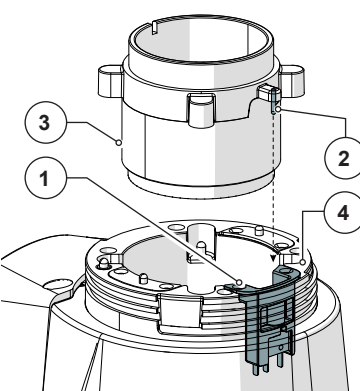

Fig. 6
- **Removable chamber presence detection microswitch (Fig. 6)**